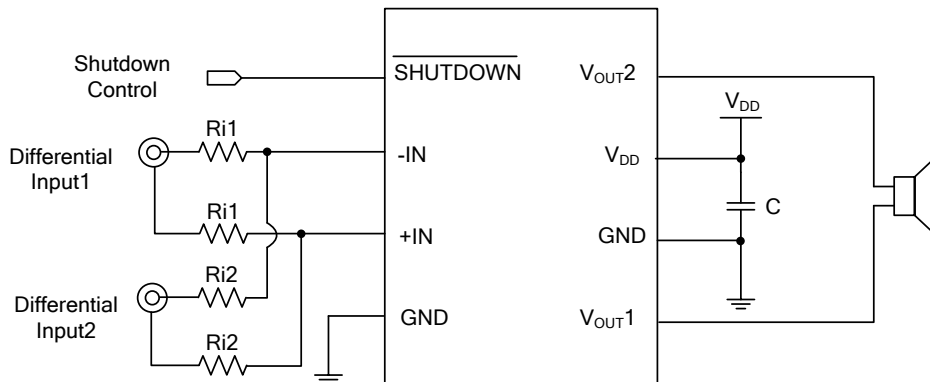

Fig. 5 Dual Differential Input Configuration
The M4670 can be used for amplification of multiple audio sources. The application configuration as shown in Fig. 5. Each input gain can be independently set the maximum use of each input and the design equation (2) on the R_i resistors of flexibility. Input capacitance can be used with one or more than one source, as well as the different frequency response according to the source or DC voltage, if necessary from the source block.